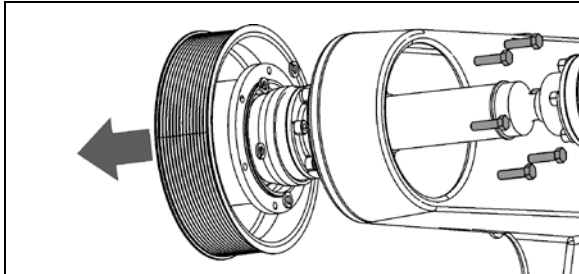

FIGURE 31: DISMOUNTING FAN DRIVE PULLEY 05123C
2. Dismount the fan drive pulley. Gain access to the 6 mounting bolts from behind the pulley, through the opening in the cast aluminum support (Figure 31).